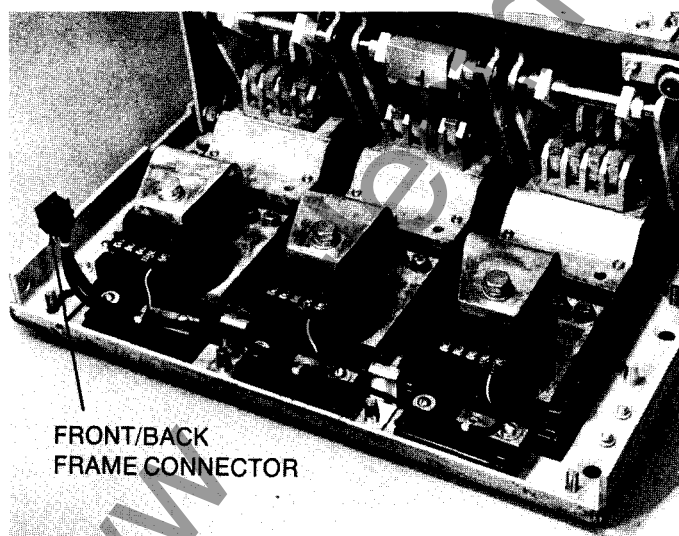

Fig. 3-4. MicroVersaTrip™ phase sensors and harness installed — AK/AKS-50
3. Install MicroVersaTrip™ phase sensor. Secure sensor to lower adaptor with RTV or equivalent adhesive. Install upper adaptor connector. See Fig. 3-4.
2. Install as shown in Fig. 3-4.
Install the Backframe Harness as shown in Fig. 3-4 or Fig. 3-7. Wire ties used to form and secure the harness are provided.